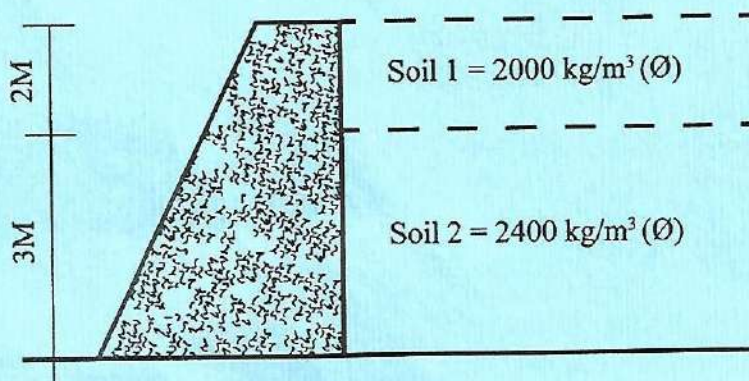

Fig. 2
- (b) **Figure 2** shows a cross section of a concrete gravity retaining wall which retains a cohesionless soil of two different densities whose angle of repose is 29° . Determine the position of the resultant lateral thrust. (14 marks)